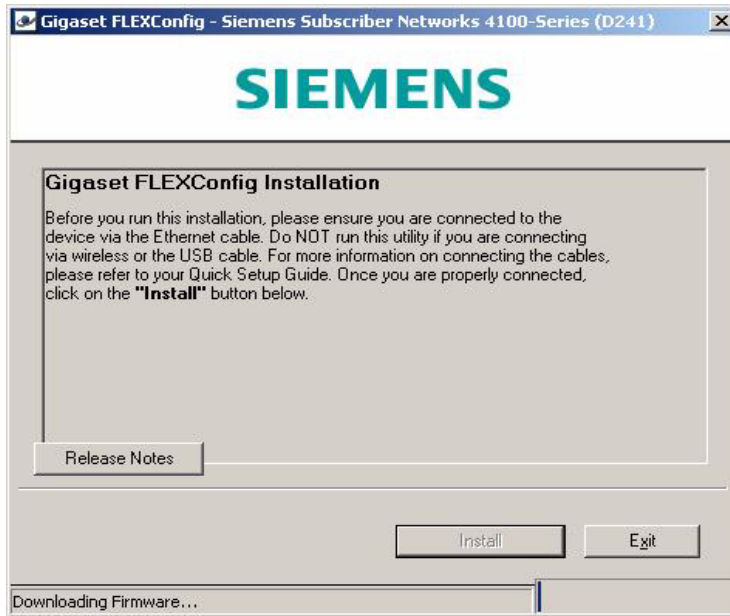

Figure 107: Downloading Firmware
5. The system displays the **Downloading Firmware** message as shown in Figure 107.